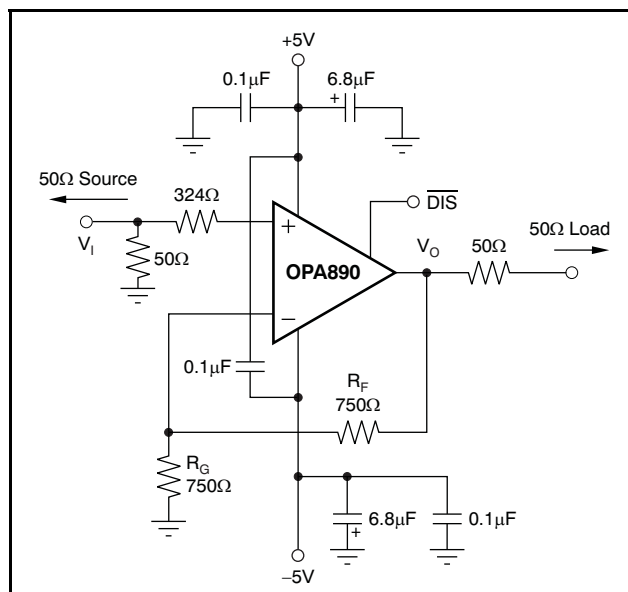
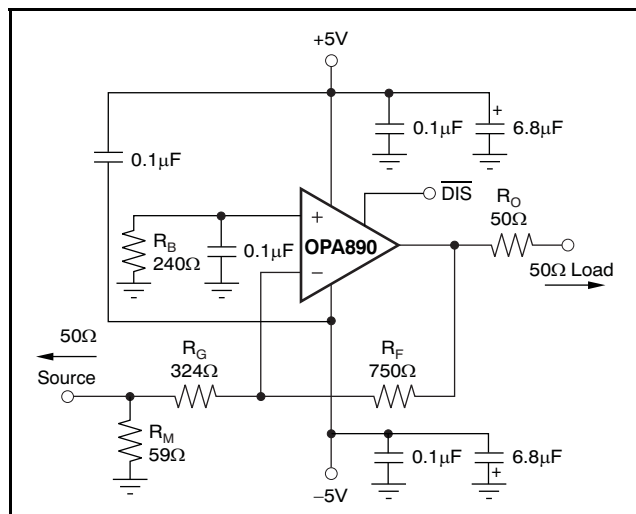

Figure 46. DC-Coupled, G = +2, Bipolar Supply, Specification and Test Circuit
Figure 51. Gain of $-2V/V$ Example Circuit
Figure 46 shows the dc-coupled, gain of +2, dual power-supply circuit configuration used as the basis of the $\pm 5\text{V}$ Electrical Characteristics and Typical Characteristics. For test purposes, the input impedance is set to 50Ω with a resistor to ground and the output impedance is set to 50Ω with a series output resistor. Voltage swings reported in the Typical Characteristics are taken directly at the input and output pins, while output powers (dBm) are at the matched 50Ω load. For the circuit of Figure 46, the total effective load will be $100\Omega \parallel 1.5\text{k}\Omega$. The disable control line is typically left open to ensure normal amplifier operation. Two optional components are included in Figure 46. An additional resistor (324Ω) is included in series with the noninverting input. Combined with the 25Ω dc source resistance looking back towards the signal generator, this configuration gives an input bias current cancelling resistance that matches the 375Ω source resistance seen at the inverting input (see the DC Accuracy and Offset Control section). In addition to the usual power-supply decoupling capacitors to ground, a $0.1\mu\text{F}$ capacitor is included between the two power-supply pins. In practical printed circuit board (PCB) layouts, this optional-added capacitor typically improves the 2nd-harmonic distortion performance by 3dB to 6dB.
Voltage-feedback op amps exhibit decreasing closed-loop bandwidth as the signal gain is increased. In theory, this relationship is described by the gain bandwidth product (GBP) shown in the *Electrical Characteristics*. Ideally, dividing GBP by the noninverting signal gain (also called the noise gain, or NG) predicts the closed-loop bandwidth. In practice, this relationship only holds true when the phase margin approaches 90° , as it does in high-gain configurations. At low gains (increased feedback factors), most amplifiers exhibit a more complex response with lower phase margin. The OPA890 is compensated to give a slightly peaked response in a noninverting gain of $2V/V$ (see Figure 46). This compensation results in a typical gain of $+2V/V$ bandwidth of $115MHz$, far exceeding that predicted by dividing the $130MHz$ GBP by 2. Increasing the gain causes the phase margin to approach 90° and the bandwidth to more closely
The OPA890 is a general-purpose, wideband voltage-feedback op amp; therefore, all of the familiar op amp application circuits are available to the designer. Inverting operation is one of the more common requirements and offers several performance benefits. Figure 51 shows a typical inverting configuration where the I/O impedances and signal gain from Figure 46 are retained in an inverting circuit configuration.
In the inverting configuration, three key design considerations must be noted. First, the gain resistor (R_G) becomes part of the signal channel input impedance. If input impedance matching is desired (which is beneficial whenever the signal is coupled through a cable, twisted-pair, long PCB trace, or other transmission line conductor), R_G may be set equal to the required termination value and R_F adjusted to give the desired gain. This approach is the simplest, and results in optimum bandwidth and noise performance. However, at low inverting gains, the resultant feedback resistor value can present a significant load to the amplifier output. For an inverting gain of $-2V/V$, setting R_G to 50Ω for input matching eliminates the need for R_M but requires a 100Ω feedback resistor. This option has the interesting advantage that the noise gain becomes equal to $2V/V$ for a 50Ω source impedance—the same as the noninverting circuits considered in the previous section. The amplifier output, however, now sees the 100Ω feedback resistor in parallel with the external load. In general, the feedback resistor should be limited to a range of 200Ω to $1.5k\Omega$. In this case, it is preferable to increase both the R_F and R_G values, as shown in Figure 51, and then achieve the input matching impedance with a third resistor (R_M) to ground. The total input impedance becomes the parallel combination of R_G and R_M .
The second major consideration, touched on in the previous paragraph, is that the signal source impedance becomes part of the noise gain equation and influences the bandwidth. For the example in Figure 51, the R_M value combines in parallel with the external 50Ω source impedance, yielding an effective driving impedance of $50\Omega \parallel 59\Omega = 27\Omega$. This impedance is added in series with R_G for calculating the noise gain (NG). The resulting NG is $3.14V/V$ for Figure 51, as opposed to only 2 if R_M could be eliminated as discussed previously. The bandwidth is therefore slightly lower for the gain of $-2V/V$ circuit of Figure 51 than for the gain of $+2V/V$ circuit of Figure 46.
The third important consideration in inverting amplifier design is setting the bias current cancellation resistor on the noninverting input (R_B). If this resistor is set equal to the total dc resistance looking out of the inverting node, the output dc error (because of the input bias currents) is reduced to $(\text{Input Offset Current}) \times R_F$. If the 50Ω source impedance is dc-coupled in Figure 51, the total resistance to ground on the inverting input is 351Ω . Combining this resistance in parallel with the feedback resistor gives the value of $R_B = 240\Omega$ used in this example. To reduce the additional high-frequency noise introduced by this resistor, it is sometimes bypassed with a capacitor. As long as $R_B < 350\Omega$, a capacitor is not required because the total noise contribution of all other terms is less than that of the op amp input noise voltage. As a minimum, the OPA890 requires an R_B value of 50Ω to damp out parasitic-induced peaking—a direct short to ground on the noninverting input runs the risk of a very high-frequency instability in the input stage.
Evaluating these two equations for the OPA890 circuit and component values (see Figure 46) gives a total output spot noise voltage of 17.4nV/√Hz and a total equivalent input spot noise voltage of 8.7nV/√Hz. This total includes the noise added by the bias current cancellation resistor (175Ω) on the noninverting input. This total input-referred spot noise voltage is only slightly higher than the 8nV/√Hz specification for the op amp voltage noise alone. This result will be the case, as long as the impedances appearing at each op amp input are limited to the previously recommended maximum value of 350Ω. Keeping both $(R_F \parallel R_G)$ and the noninverting input source impedance less than 350Ω satisfies both noise and frequency response flatness considerations. Because the resistor-induced noise is relatively negligible, additional capacitive decoupling across the bias current cancellation resistor (R_B) for the inverting op amp configuration of Figure 51 is not required.
The balanced input stage of a wideband voltage-feedback op amp allows good output dc accuracy in a wide variety of applications. The power-supply current trim for the OPA890 gives even tighter control than comparable amplifiers. Although the high-speed input stage does require relatively high input bias current (+25°C worst case, 1.6μA at each input terminal), the close matching between them may be used to reduce the output dc error caused by this current. The total output offset voltage may be considerably reduced by matching the dc source resistances appearing at the two inputs. This matching reduces the output dc error resulting from the input bias currents to the offset current times the feedback resistor. Evaluating the configuration of Figure 46, and using worst-case +25°C input offset voltage and current specifications, gives a worst-case output offset voltage equal to: